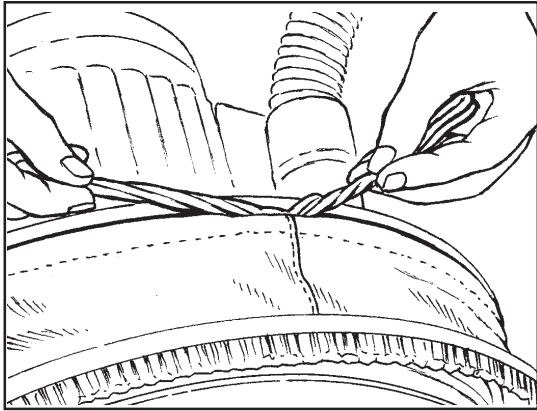
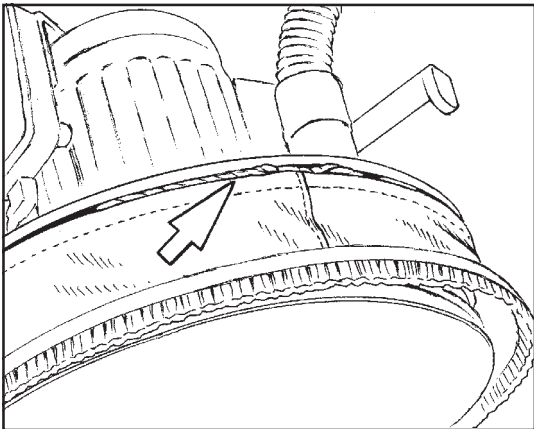

Figure 7
Figure 8
1. Wrap the skirt around the bumper such that the draw string can be inserted into the recess of the bumper. See figure 7.
4. Twist the ends of the string (see figure 7) and insert them into the recess of the bumper as shown in figure 8.
El interruptor de arranque/parada se opera empujando el botón de cierre de seguridad (1) y usando las palancas (2) situadas debajo del mango de mando (Véase fig. 8).